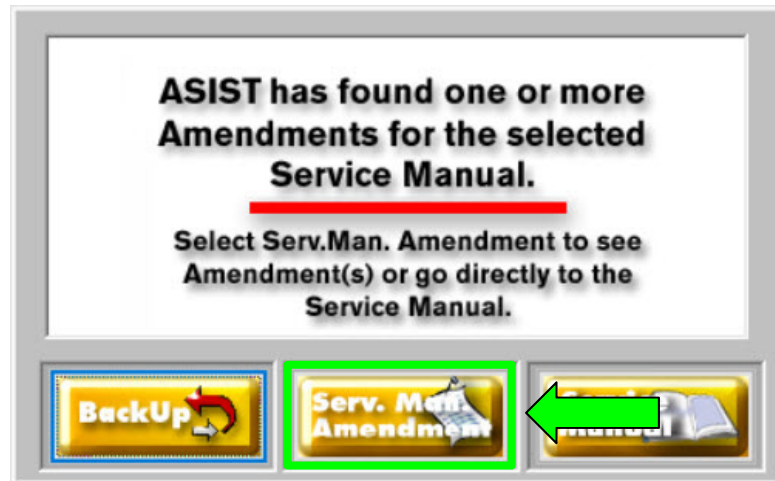

Figure 9
- "Serv. Man. Amendment" (see Figure 9).